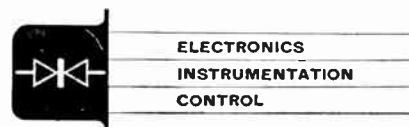

Fig. 18 (Below). Servomultiplier positions the taps on six ganged pots—one follower pot (F) and five multiplying pots (A-E)
There is no reason to restrict ourselves to just two ganged potentiometers; the servomultipliers in the Electronic Associates PACE 231R analogue computer use six, labelled A to F (Fig. 18). The F potentiometer is connected to the reference voltage, and plays the role of potentiometer 1 in Fig. 17. If x is the variable positioning the servo, then all six potentiometers have the arm position $x/100$, and potentiometers A to E all are available for multiplication by x . This arrangement enables one to generate terms such as xy , xz , . . . etc., with only one servomultiplier. This feature is especially useful in generating polynomials. In particular, it allows us to generate the cubic term in equation (8) with just one servo, as shown in Fig. 19.